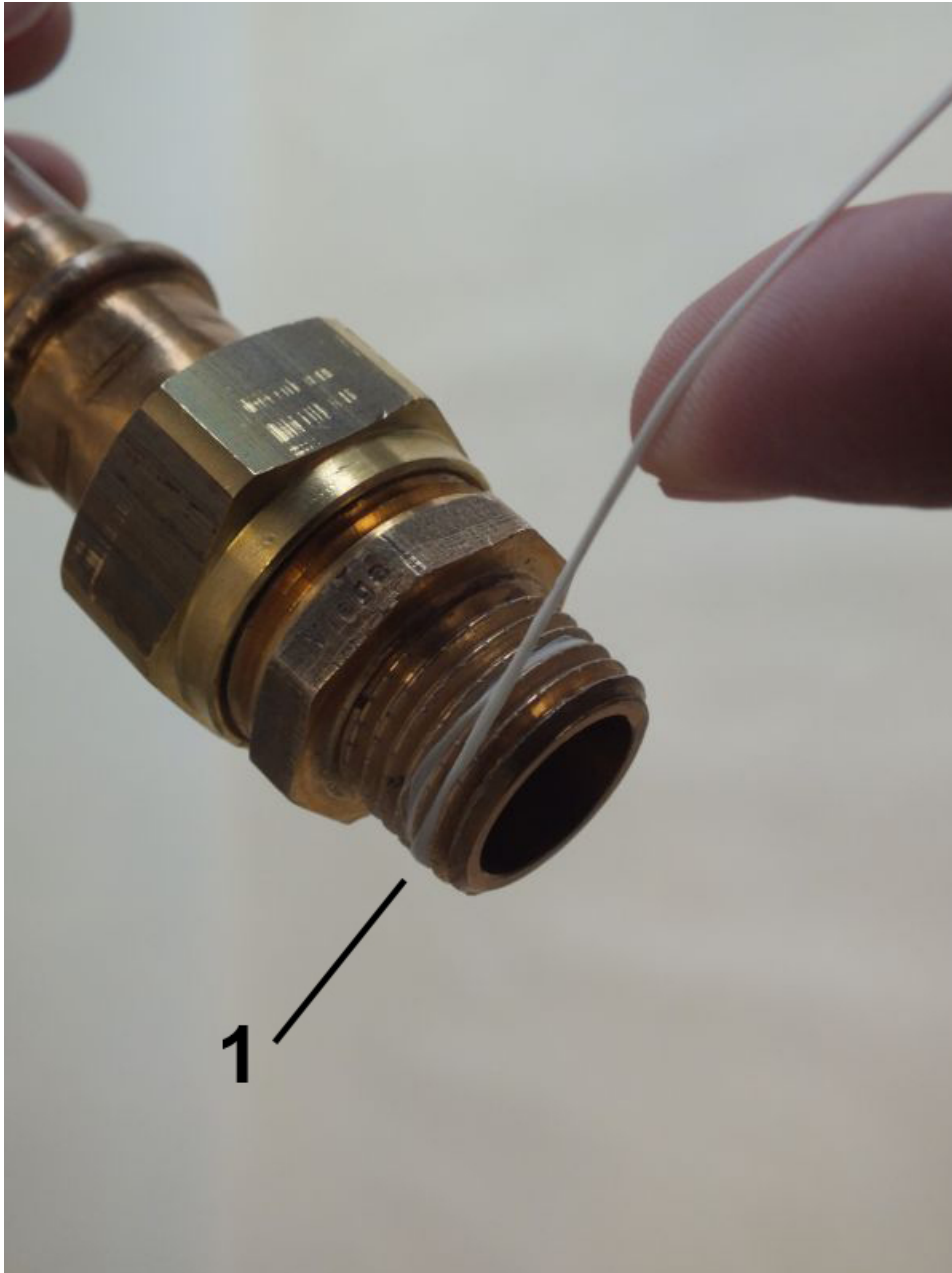

Fig. 9: Apply sealing thread
- 2.** Apply sealing thread (Fig. 9/1) to the napped area in the thread direction. Observe the quantity recommended by the sealant manufacturer